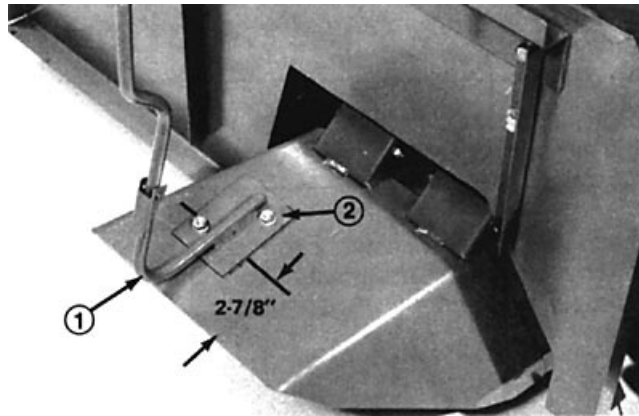

Figure 4
1. Measure 2-7/8 inches in from the edge of the deflector and mark a line parallel to the edge of the deflector (Fig. 4).
2. Position the lockup rod on the deflector so the outside hole in the lockup rod base lines up with the line on the deflector (Fig. 4).
5. Fasten the lockup rod base to the deflector with two 5/16"-18 x 3/4" bolts and flange nuts. Install the bolts up from the bottom of the deflector with the flange nuts on top (Fig. 4).